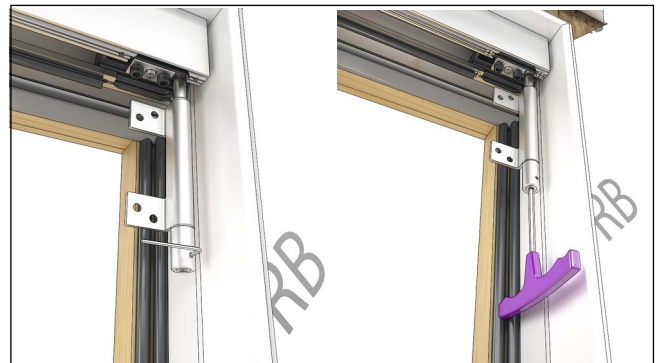

Figure 26
3. Lower the pivot flags towards the sill through loosening the set screw, turning the adjustment cam, and tightening the set screw. See Figure 26.